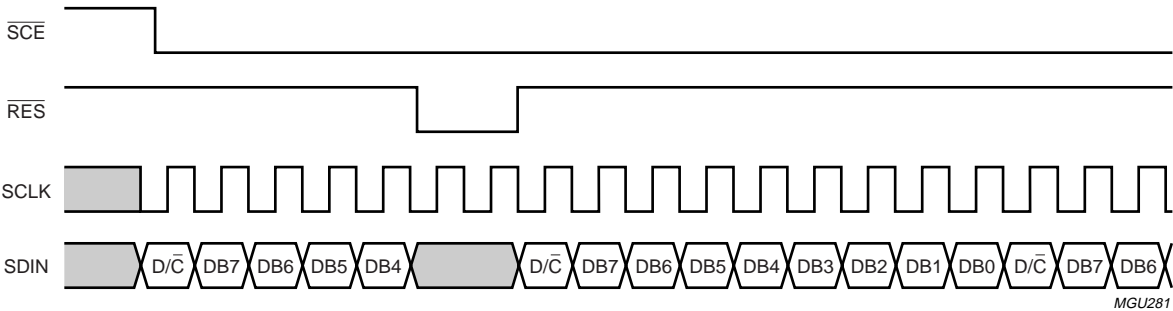

Fig.14 Write mode: interrupted by reset ( $\overline{RES}$ ).
- A reset pulse with  $\overline{\text{RES}}$  interrupts the transmission. The data being written into the RAM may be corrupted. The registers are cleared. If  $\overline{\text{SCE}}$  is LOW after the rising edge of  $\overline{\text{RES}}$ , the serial interface is ready to receive the  $\text{D}/\overline{\text{C}}$  bit of a command or data byte (see Fig.14).